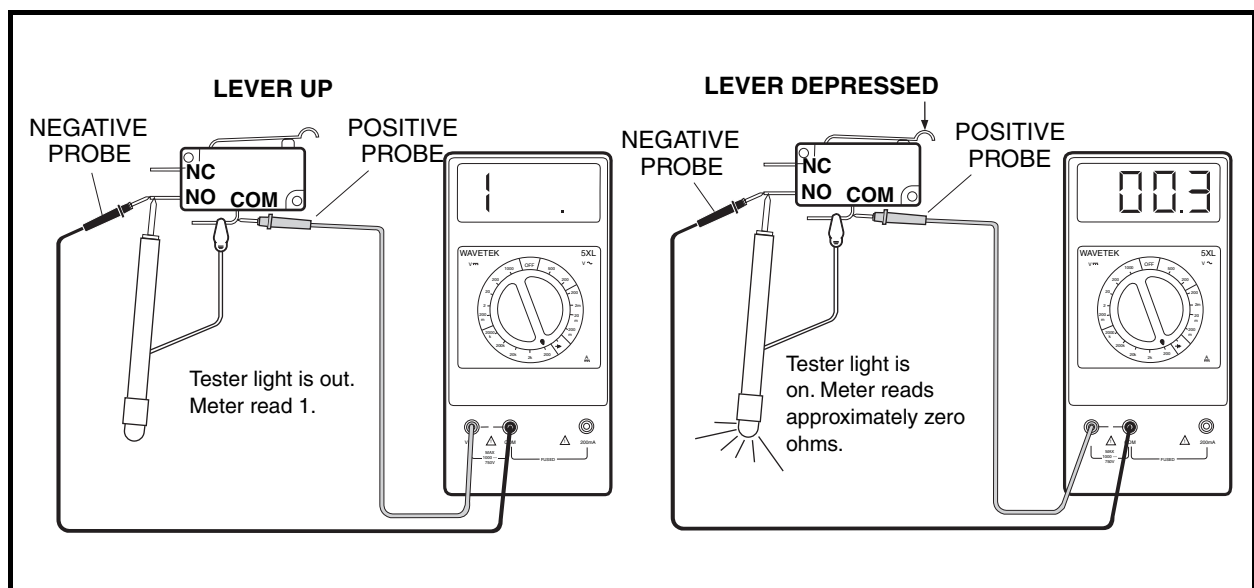

Figure 11-11 Test Neutral Lockout Switch
3. Set the multimeter to 200 (ohms). Place the red (+) probe of the multimeter on the common (COM) terminal of the limit switch. Place the black (–) probe on the normally open (NO) terminal of the switch. Without the lever pressed, the reading should be no continuity. Press the lever, and the reading should be continuity. If either reading is incorrect, replace the limit switch (**Figure 11-11, Page 11-15**).